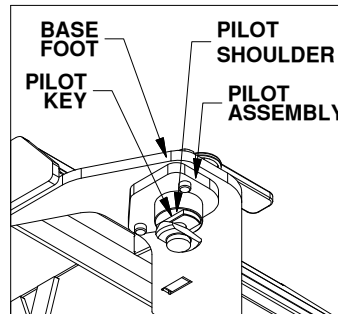
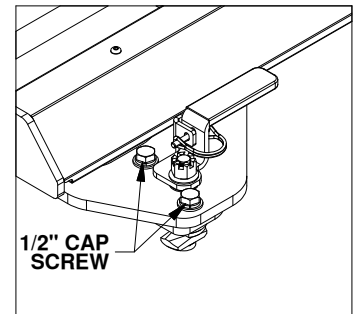

Figure B3: View under base foot
Figure B4: View of base foot
2. **Align pilot assemblies.** Each leg of the Companion base has an adjustable pilot assembly which is attached to the foot with two 1/2" cap screws, as shown in Figure B3. To adjust the pilot assemblies that do not fit into the attachment points, loosen both the 1/2" cap screws so the pilot assembly can move freely, see Figure B4. Set the base over the attachment points and adjust the pilot assemblies until the pilot keys pass through the slot in the attachment points and the pilot shoulders rest flat against the top of the attachment points. When all the pilot assemblies are aligned and inside the attachment points, push the base toward the cab and use a tape measure to verify that the base is approximately square with the truck bed. Tighten any loose cap screws to 80 ft-lbs.